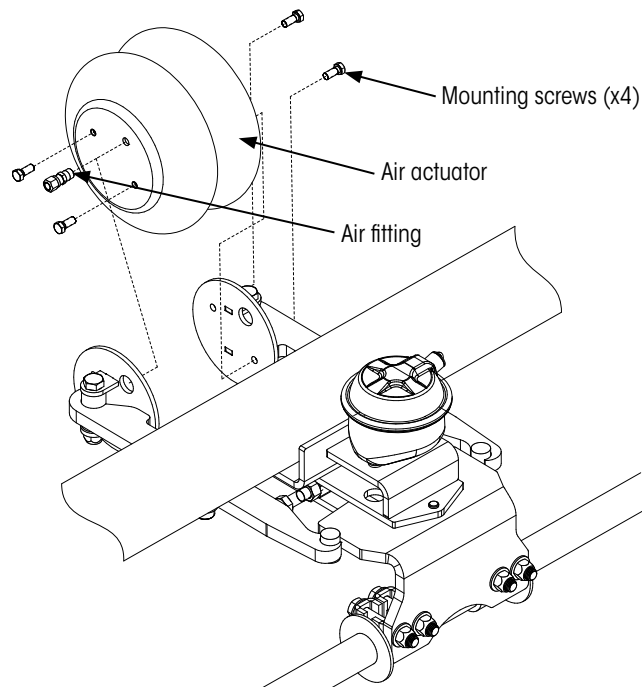

Figure 8: Removing lock-straight air actuator
4. **Remove** the air actuator (Figure 8) by extracting the air fitting and four mounting screws. **Set aside** for later reassembly.